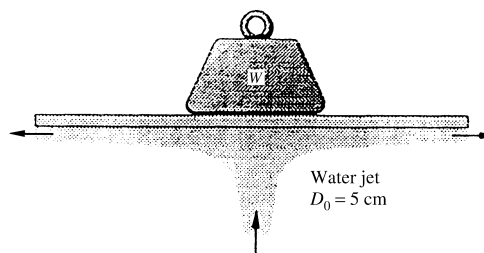

Fig. P3.45
**3.45** In Fig. P3.45 a perfectly balanced 700-N weight and platform are supported by a steady water jet. What is the proper jet velocity?